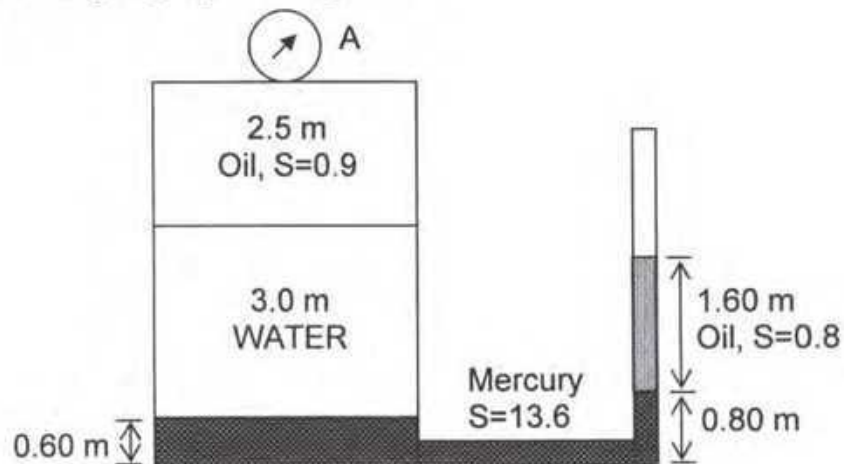

Figure 3
- d. Determine the reading of gauge A in Figure 3.